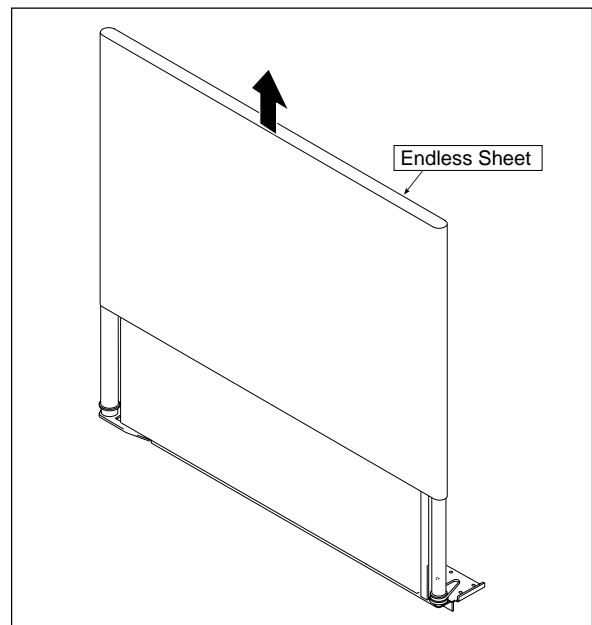

Fig. 15
2. Remove the Endless Sheet as shown in Fig. 15.